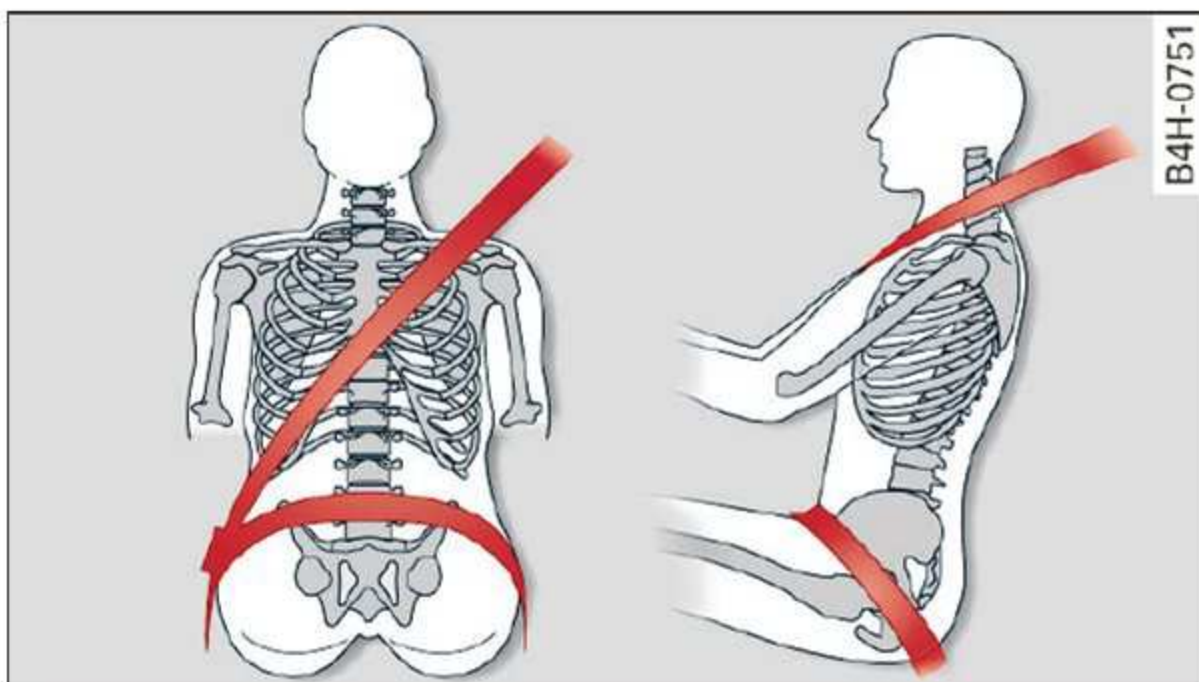

Fig. 152 Safety belt position
- The shoulder belt should lie as close to the center of the collar bone as possible and should fit well on the body. Hold the belt above the latch tongue and pull it evenly across the chest so that it sits as low as possible on the pelvis and there is no pressure on the abdomen. The belt should always fit snugly ⇒ *fig. 152*. Pull on the belt to tighten if necessary.